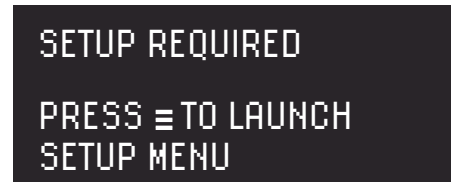

Fig:26
Pairing a wall console with the drive unit requires separate pairing steps for Bluetooth and RF-Link. These steps follow sequentially in the setup procedure (Fig:26 - Fig:37) and must both be completed for the operator to function normally.
2. Fig:26 shows the start screen of the pairing wizard. Press  $\equiv$  to begin and follow the instructions on screen up to Fig:29.
The RF Link connection steps follow on sequentially after completing the Bluetooth pairing steps shown in **Fig:26-Fig:31**.